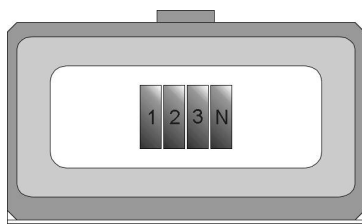

Fig. 1
3. Ensure the busbars are central in the toroid (see Fig. 1).